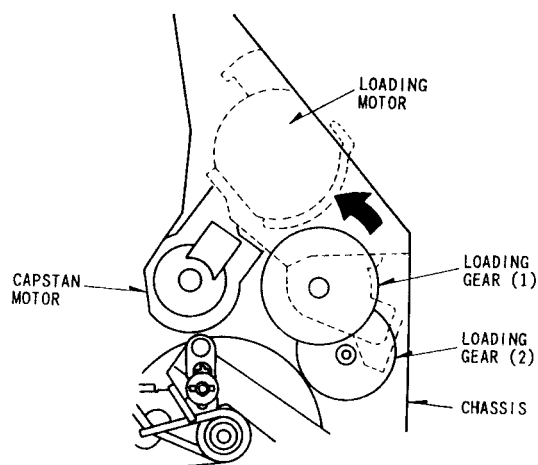

Fig. 2-3
- 4) Turn the Loading Gear (1) in the direction of arrow (F) to unload. (Fig. 2-3)